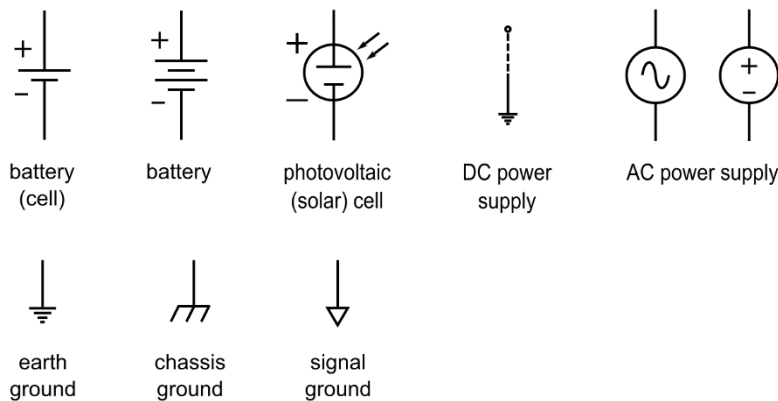

Figure 14-4: Symbols for power and ground.
Power for a circuit can come from an alternating current (AC) source, such as the 120 VAC (volts AC) outlet in your house or office (line power), or a direct current (DC) source, such as a battery or the low-voltage output from a wall transformer. DC supplies can be positive or negative with respect to the zero-volt reference (known as *common ground*, or simply *common*) in a circuit. Figure 14-4 shows various symbols used to represent power and ground connections. These symbols are discussed more fully in the next two subsections.
Figuring out the various power connections in a complex schematic is sometimes a task unto itself. This section aims to clear things up a bit. As you read through this section, refer to Figure 14-4 to see the symbols as they're discussed.
- **Battery or solar-cell symbol:** Each of the battery symbols in Figure 14-4 represents a DC source with two leads. Technically, the battery symbol that includes two parallel lines (the first symbol for battery) represents a single electrochemical *cell*; the symbol with multiple pairs of lines (the second symbol) represents a *battery* (which consists of multiple cells).